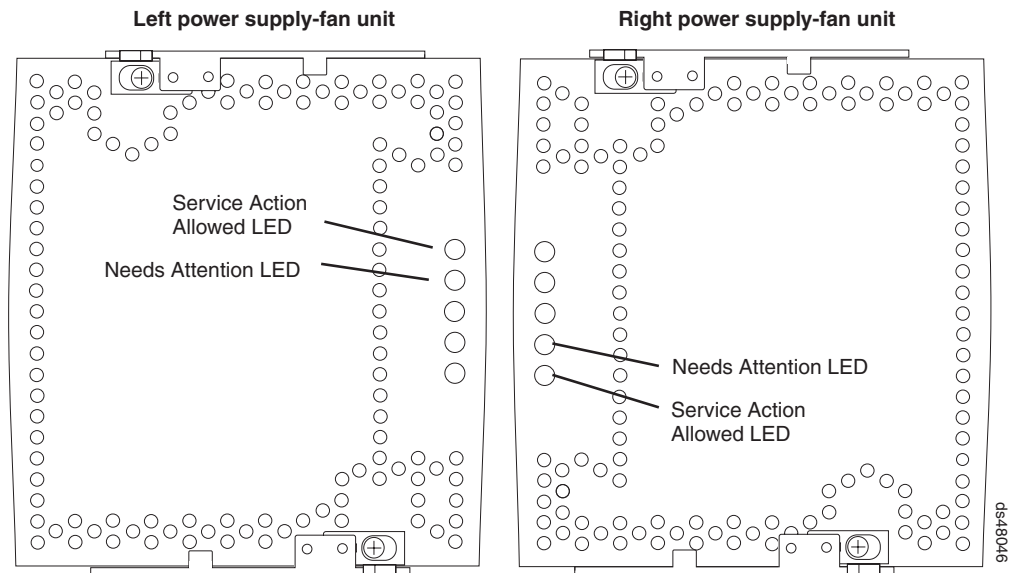

Figure 79. Power supply-fan Needs Attention LEDs
5. Check the Needs Attention LED on each power supply and fan unit. (Figure 79 on page 133 shows the left power supply and fan unit Service Action Allowed LED is the top, or first, LED, and the Needs Attention LED is the second LED. On the right power supply and fan unit the Service Action Allowed LED is the bottom, or fifth LED, and the Needs Attention LED is the next, or fourth, LED.)